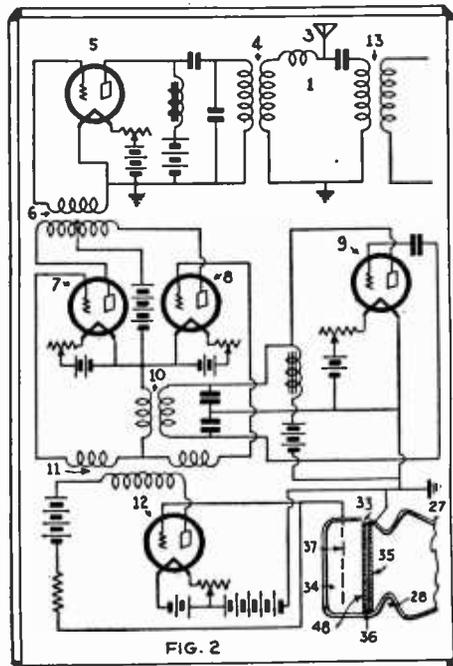

FIG. 2
Another who has used the Braun tube is Prof. Zworykin, whose design is very similar to that of Sabbah, described above. The plan is given in Fig. 2. The front part of the Braun tube, only part of which is represented, is narrowed to a neck at point 28. Against this indentation of the glass is placed a plate (35-36-48); so that part of the tube becomes an enclosed space (34), in which is placed a grid (37). This plate or screen is made in three layers: one of metal (35); one of insulating material (36);